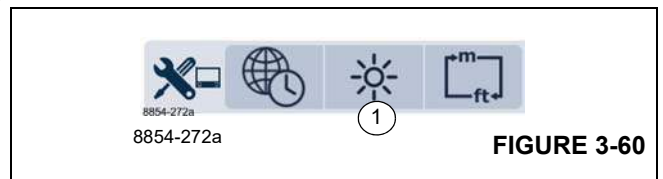

FIGURE 3-60
- Display Settings (1), (Figure 3-60) menu.